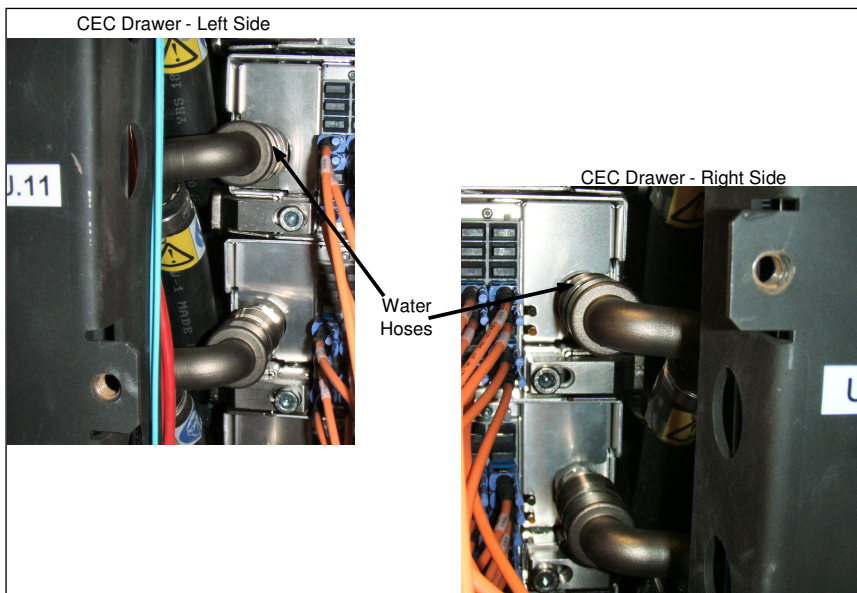

Figure 18 CEC Drawer rear water connections
STEP 28 Disconnect the two water hoses from the left and right rear (see Figure 18) of the CEC Drawer. Disconnect the hoses by pulling the retaining ring on the hose, see Figure 19.